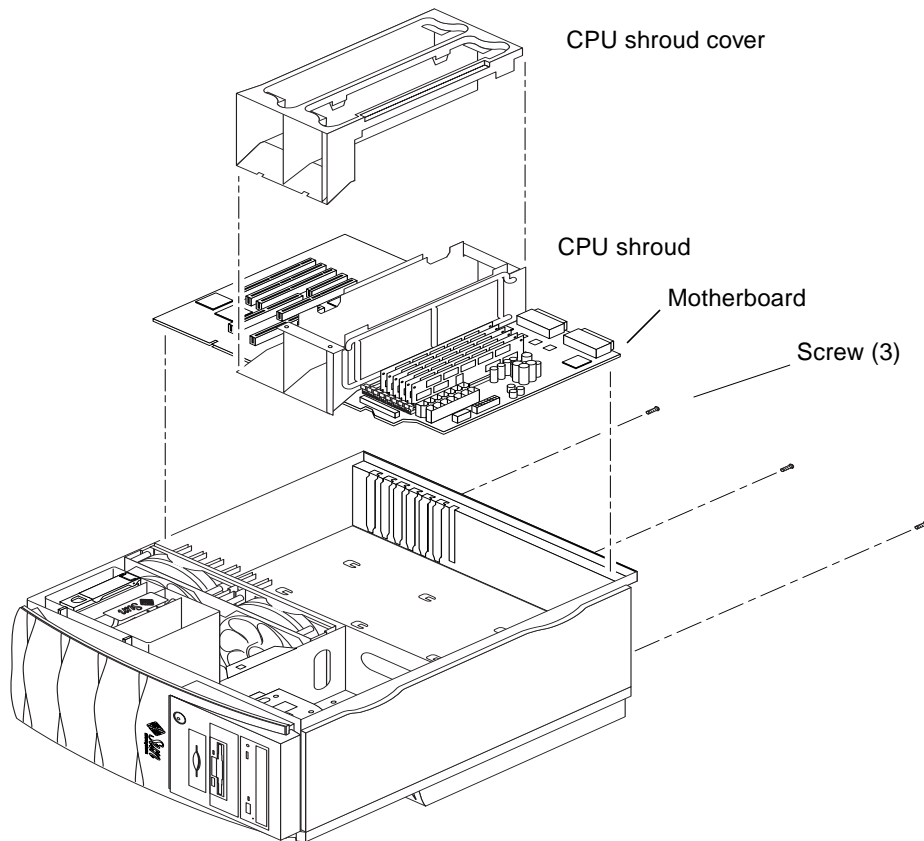

FIGURE 8-6 Removing and Replacing the Motherboard
2. **Lay the system on its side** (FIGURE 8-6).
6. **Using a No. 2 Phillips screwdriver, remove the three screws securing the motherboard to the chassis back panel** (FIGURE 8-6).
7. **Position the motherboard in the chassis (FIGURE 8-6).**
9. **Using a No. 2 Phillips screwdriver, replace the three screws that secure the motherboard to the chassis back panel (FIGURE 8-6).**